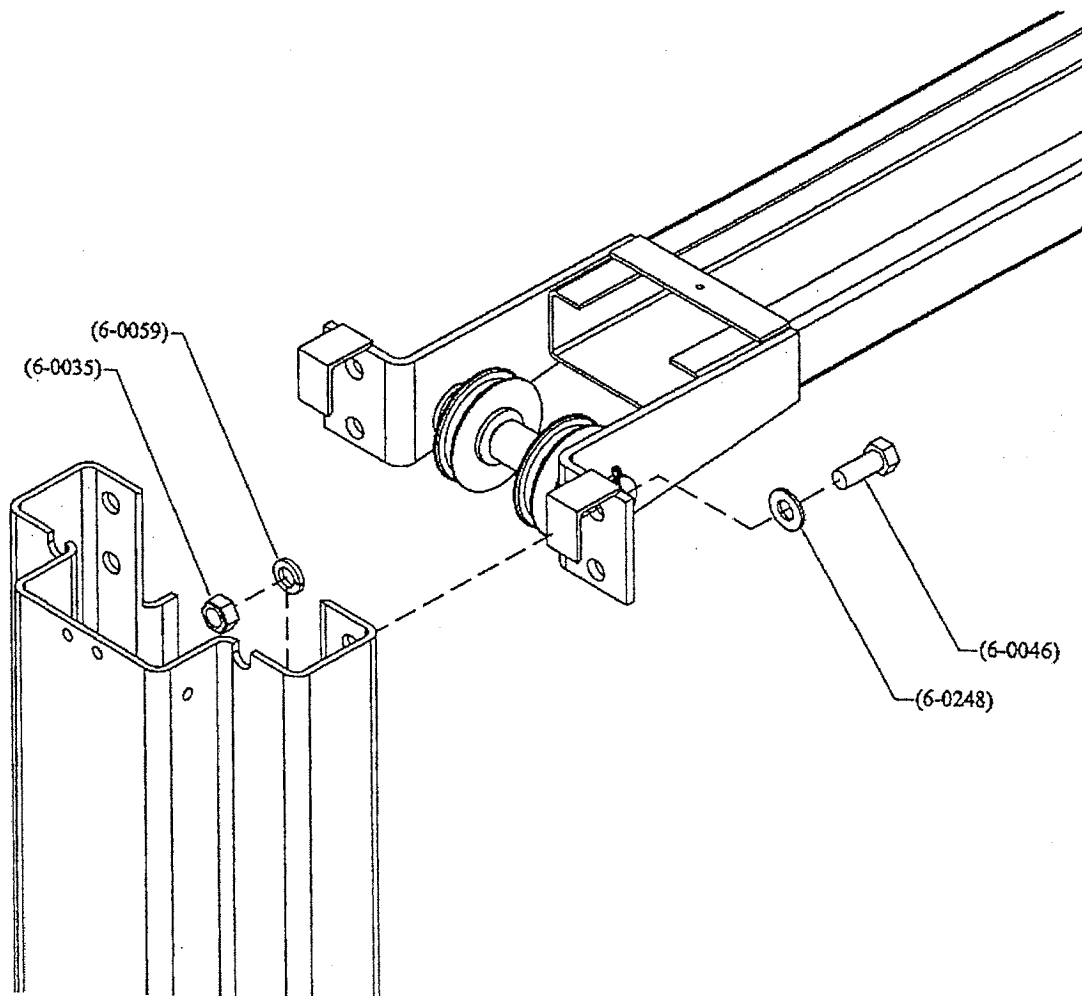

Figure 5 – Crossmember Assembly
2. Using a stepladder, install the crossmember using eight (8) $\frac{1}{2}$ "-16UNC x 1 $\frac{1}{4}$ " lg. hex head bolts, eight (8) $\frac{1}{2}$ " ID lock washers, eight (8) $\frac{1}{2}$ " hex nuts and eight (8) $\frac{1}{2}$ " flat washers. See **Figure 5**